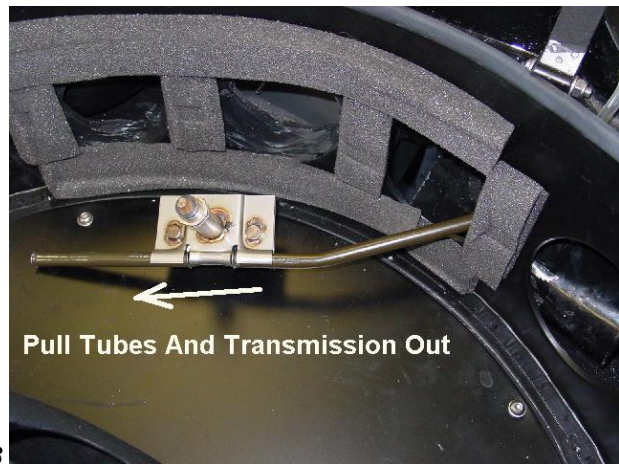

Fig. 14
9. Pull the assembly through the opening. *Fig.14*